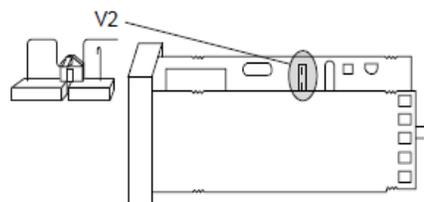

Figure 1
1. Open V2 switch for Basic Configuration (Figure 1)
3. Close V2 switch after Basic Configuration (Figure 1)
F001 = See Figure 1